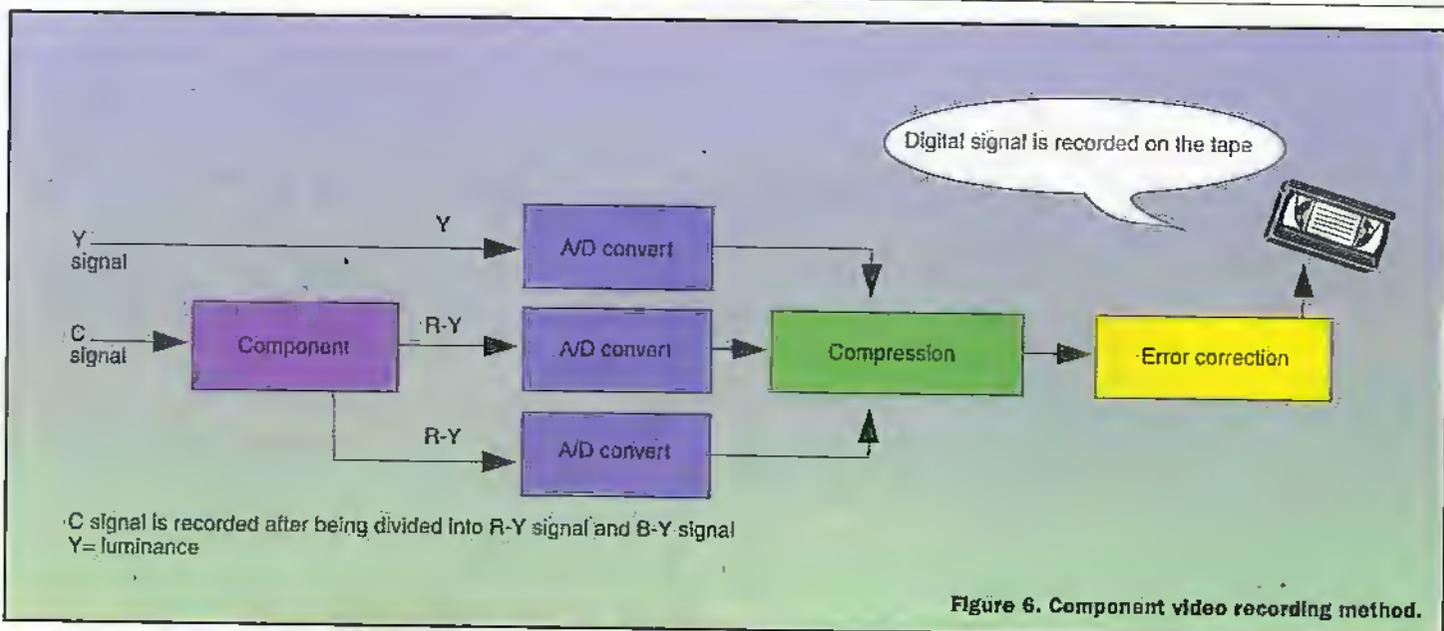

Figure 6. Component video recording method.
In addition to being the first digital format for consumer use, DV is also the first consumer format to use component recording. This keeps the luminance (Y) signal separate from the chrominance signal, and divides that up into its colour difference components - R-Y and B-Y (or Cr and Cb) - Figure 6. Having three separate signals allows a wider colour bandwidth, eliminates cross colour and cross luminance artifacts, and obviates the need to encode and decode as would be the case with a composite signal - thus minimising degradation and making it easier to edit and manipulate.